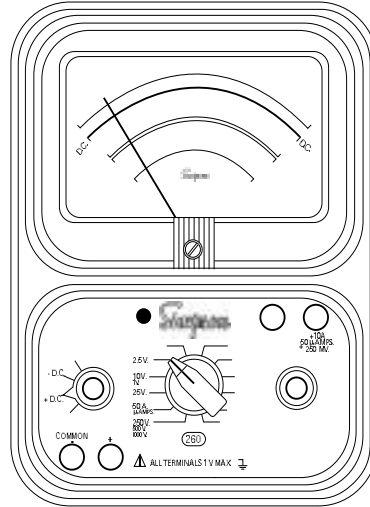

Figure 4-2. Jacks and Switch Positions for Measuring DC Voltages, 0-250V Range
- Set the function switch at +DC (Figure 4-2).